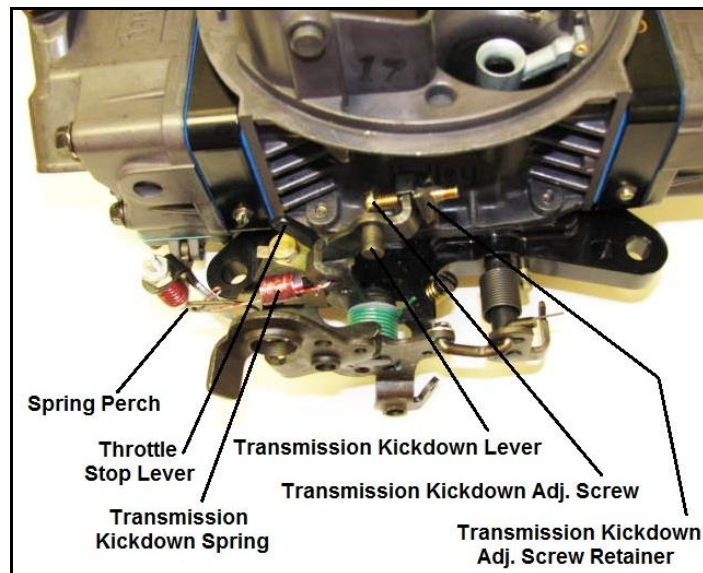
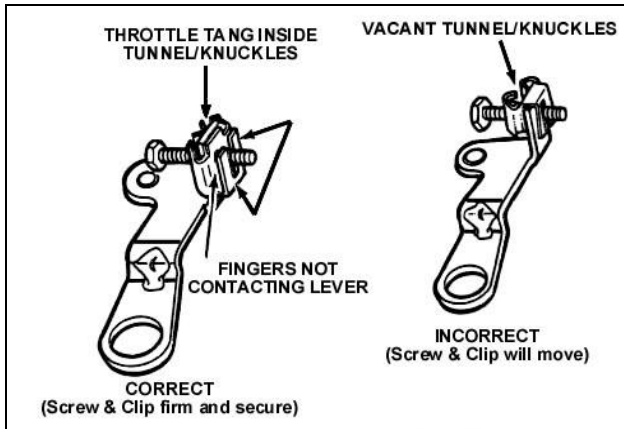

Figure 2—Ford applications
Figure 3—Ford applications
2. Insert the transmission kickdown screw with the retaining clip on the transmission kickdown lever (**Figure 2**). This assembly must be installed according to the detailed drawing (**Figure 3**).
4. Install the transmission kickdown spring between the transmission kickdown lever and spring perch on the solenoid/dashpot bracket (**Figure 2**).